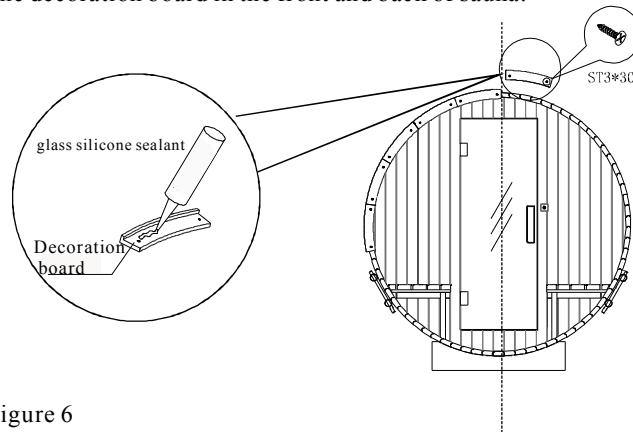

Figure 6
- (7) Start to tightly Assembly decoration board symmetrically from vertical center line, apply glass silicone sealant first, then fasten with screws (as shown in Figure 6). Assembly the decoration board in the front and back of sauna.